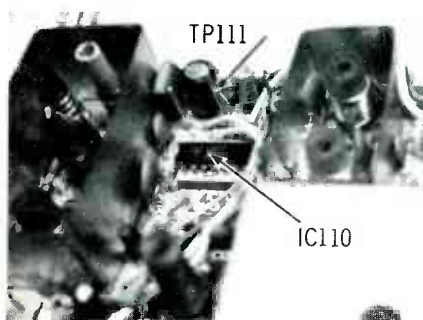

Fig. 4 The testpoints are metal posts; they are well-marked and convenient for you to measure voltages and signals.
- Check for +22 volts at terminal 3 of the 12-pin socket (Figure 3). Other secondary B+ points are TP142 and TP111 (see Figure 4). Loss of B+ at any of these will kill all signal;